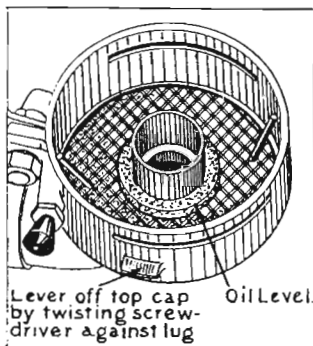

Fig. 1
AIR CLEANER (7). Lever off the top cover and remove the felt washer, inner wire gauze and felt pad and soak these parts in engine oil. Replace in the same order as removed and pour in sufficient engine oil to just cover the felt washer (Fig. 1). Replace the top cover.